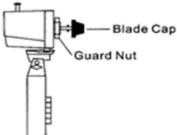

Fig. 1
- 01.** Loosen the blade cap by turning clockwise and rear guard mounting nut by turning anti-clockwise. (Fig1)